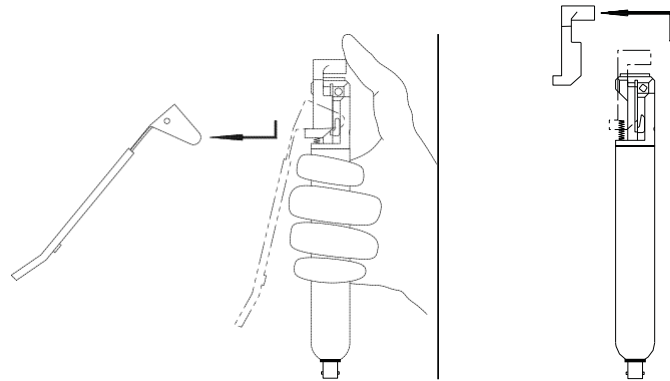

Figure 4-8, Removing the Lever and Ground Jaw
4. *Slightly* release the ground jaw. Remove the lever by rotating it away, and pulling it down from the RF jaw. Remove ground jaw by pulling jaw up and away. See Figure 4-8, Removing the Lever and Ground Jaw. *Be sure the RF power cable is disconnected from the Sealing Head!*